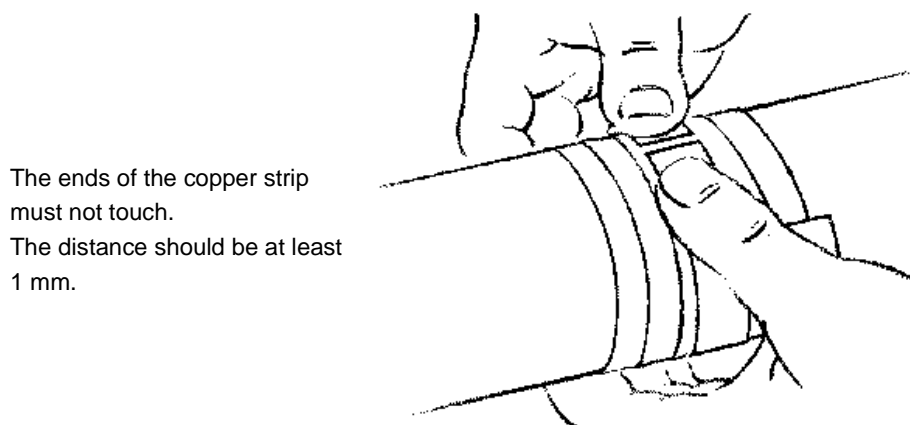

Figure 40: Installation of copper band
7. Apply the secondary copper winding centrally to the insulated mu-metal (see figure 40).